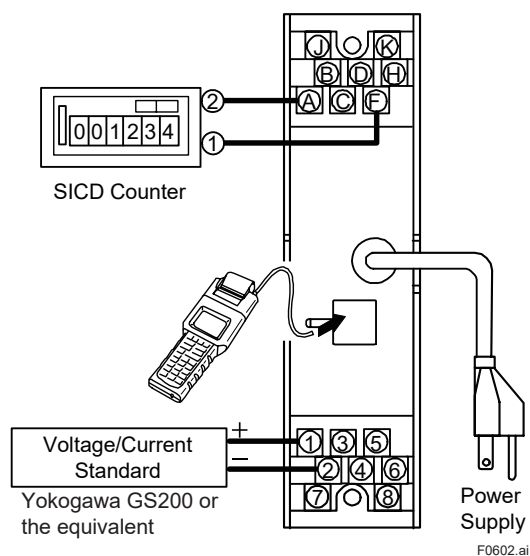

Figure 6-2 Wiring Diagram
- (b) Connect each device referring to Figure 6-2 below.